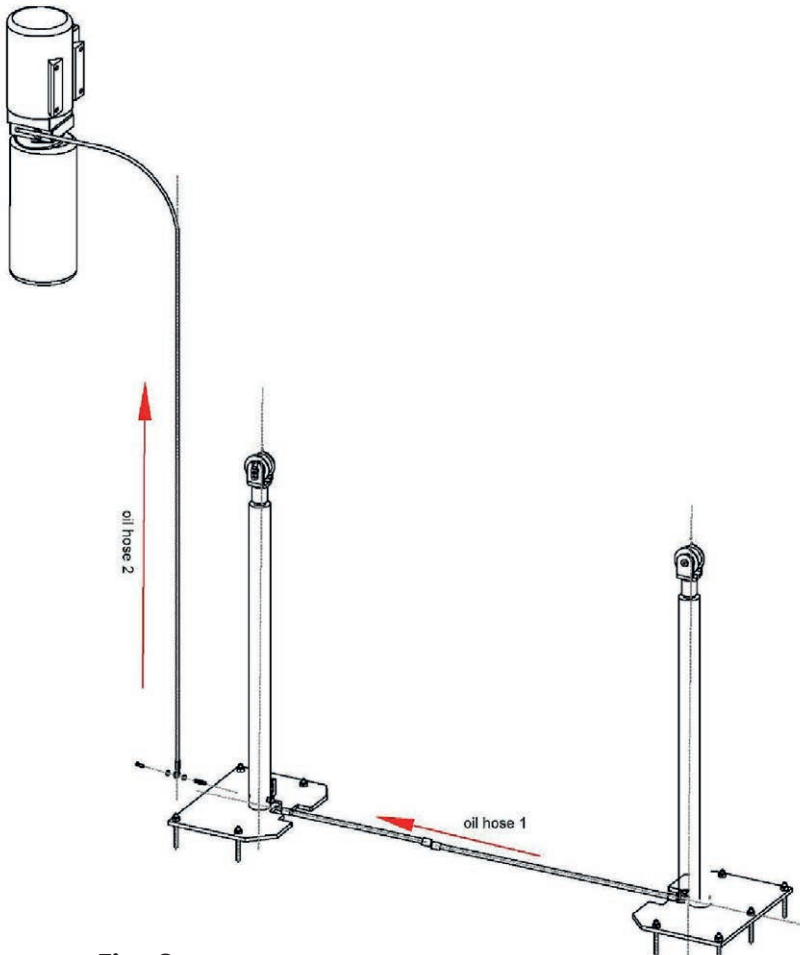

Fig. 9
8. Connect the oil hoses as per the following diagram (**fig. 9**).